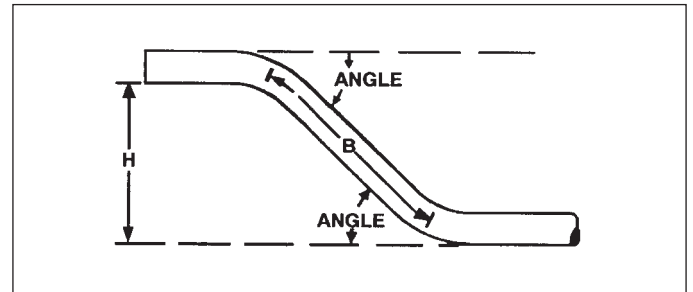

Figure 5
6. Rotate thinwall 180 degrees and align second bend mark (B) with arrow on bending shoe. Proceed to bend, reading angle on rear edge of frame. (Angle on shoe includes approximate spring-back.) (See Figure 5.)